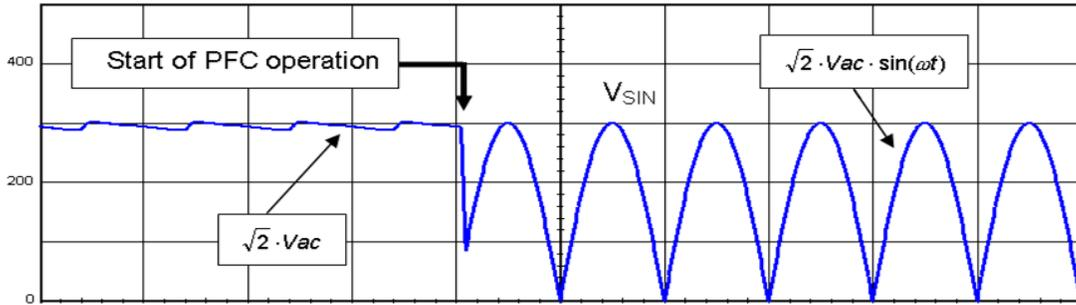

Figure 23. Typical Input Voltage of a PFC Stage
- ◆ Before operation, the PFC stage is off and the input bridge acts as a peak detector (refer to Figure 23). As a consequence, the input voltage is approximately flat and nearly equates the ac line